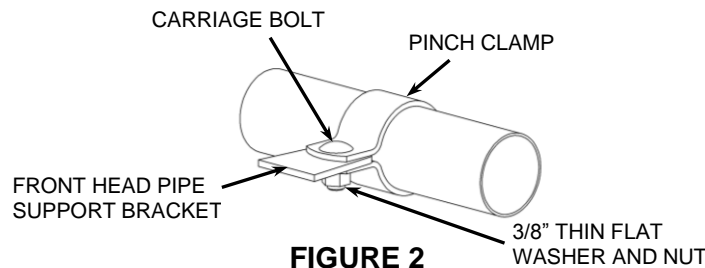

FIGURE 2
8. Slide the supplied pinch clamp over the front headpipe making sure the square hole on the clamp is facing up and towards the inside. Position the clamp over the support bracket so that the pinch clamp captures both sides of the bracket. See **FIGURE 2**. Insert the supplied 3/8" carriage bolt through the top of the pinch clamp and support bracket. Install the 3/8" thin flat washer and nut onto the bottom of the carriage bolt but **DO NOT TIGHTEN** at this time.
25. Then fully tighten the flange nuts on the exhaust port studs, followed by the 3/8" carriage bolt and nut on the front headpipe support clamp. See **FIGURE 2**.